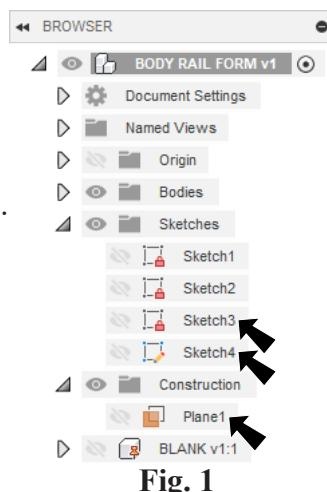

Fig. 1
Step 3. In the Browser **Hide Sketches and Construction** used in the CAM tutorial. Hide **Sketch3, Sketch4 and Plane1**, Fig. 1.